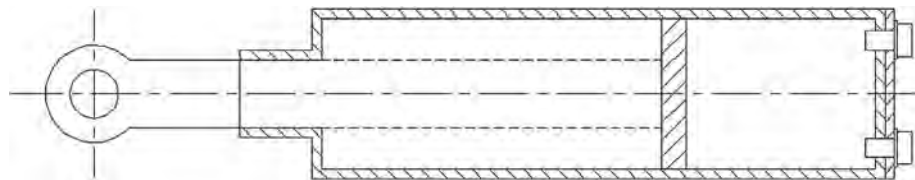

FIGURE 8.30
Step 10. Add the bolt projections, as seen in Figure 8.30 (the depth into the side view can be approximated). Finally, add hatch patterns, using the Angle option to reverse the hatch directions, which is a common technique in mechanical design to differentiate the parts from each other in a cross section.